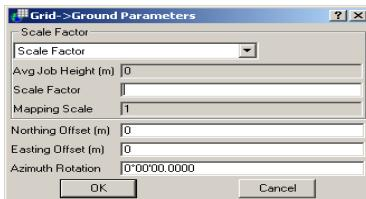

Figure 3-28. Grid to Ground Parameters
3. Enter the applicable transformation parameters (Figure 3-28).